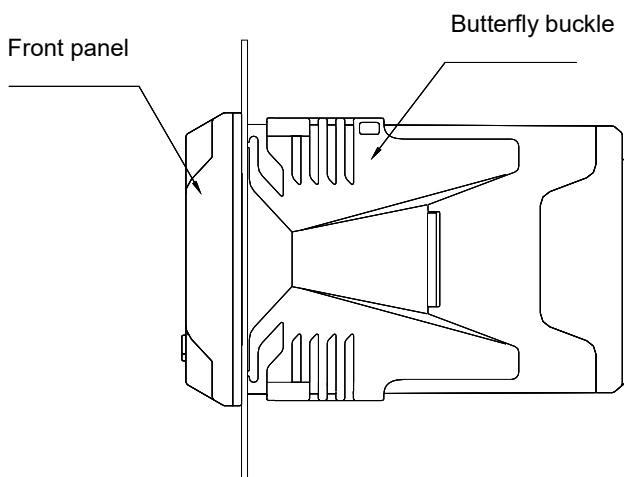

Fig.3 Schematic diagram of meter installation
- Insert the meter into the mounting hole and fasten the butterfly buckle, as shown in Figure 3: